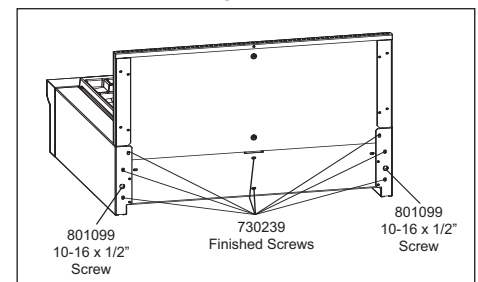

Figure 5
4. Attach riser support legs and center support to rangetop (See Fig. 5).